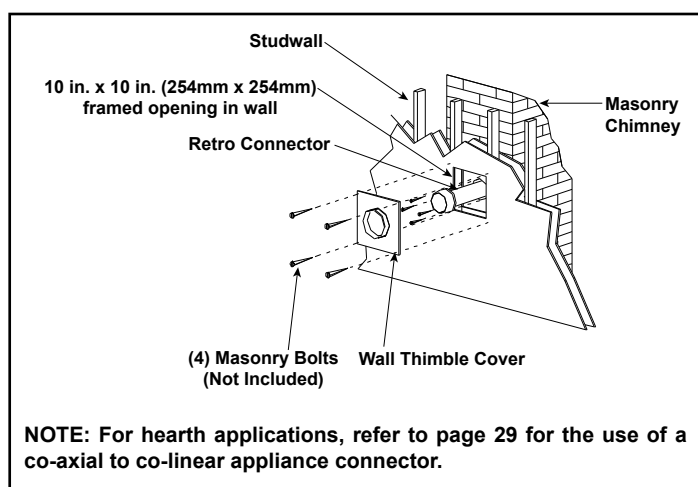
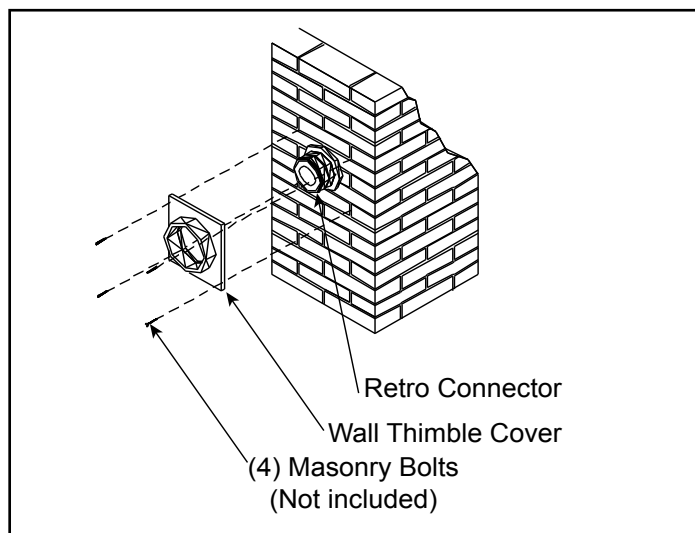

Figure 4.23
Figure 4.28
2. Once the center point of the penetration has been determined, cut a 6 in. (152mm) diameter hole in the masonry. If the hole is too large, the retro connector might not mount properly; if the hole is too small, the appliance might starve for intake air. If there is a frame wall in front of the masonry wall, cut and frame a 10 in. (254mm) square opening in the wall (centered around the 6 in. (152mm) masonry opening). If there is sheet rock only (no studs) in front of the masonry the 10 in. (254mm) opening is still needed, but does not need to be framed. If the hole is framed a wall thimble is required. This allows the retro connector to mount directly on the masonry and provide the correct clearances to combustibles. See Figure 4.23.
10. Slide wall thimble cover over retro connector and secure with masonry bolts. See Figure 4.28. If you have a framed wall in front of the masonry, use wood screws to mount wall thimble cover to framed wall, over retro connector and 10 in. (254mm) square framed opening. See Figure 4.23. If needed, add a section of direct vent pipe to the retro connector in order to extend through the opening in the wall thimble cover.